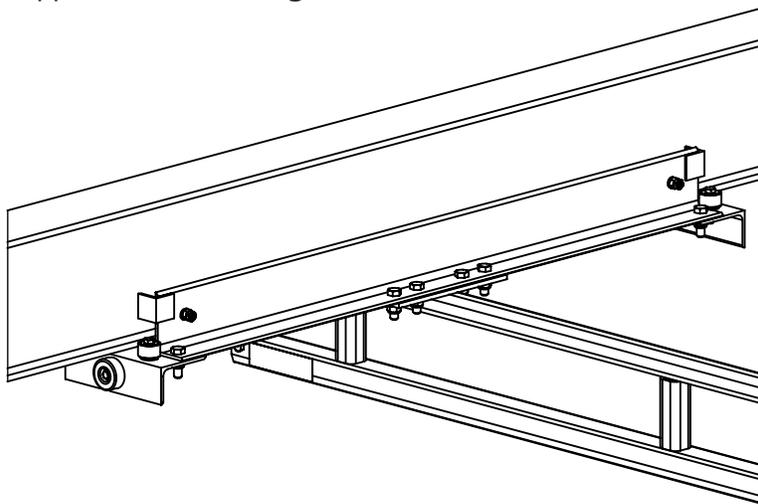

Figure 8
1. Once the end trucks are installed fully on both ends of the bridge to hand tight, make any final adjustments necessary. They should appear identical to **Figure 8**.